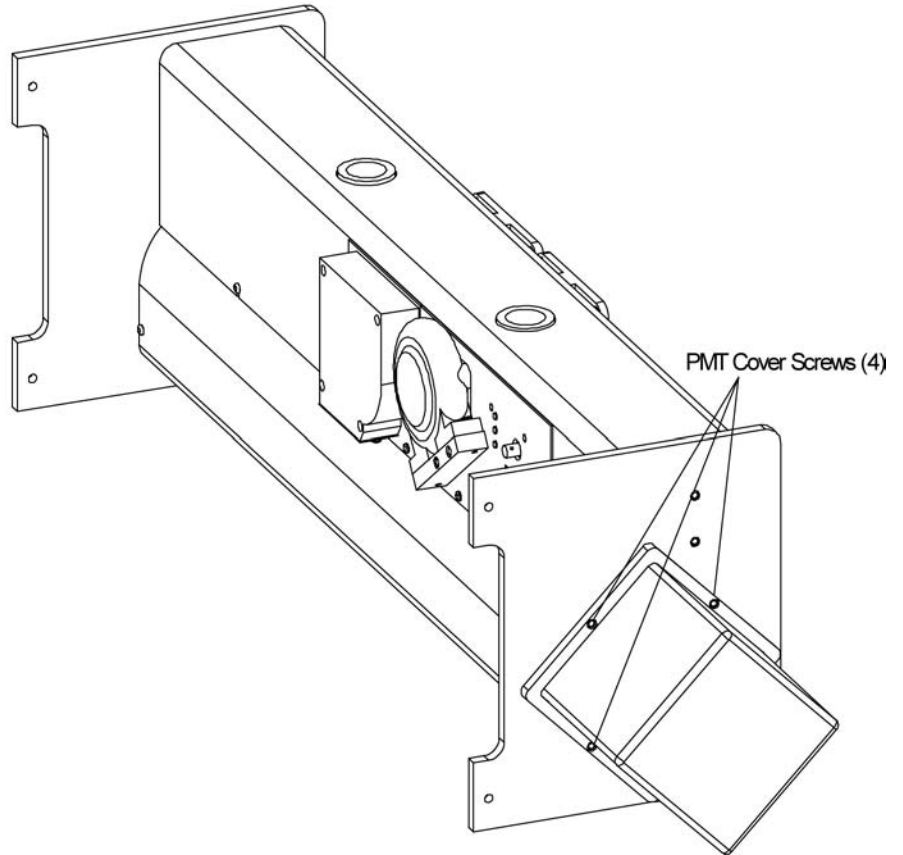

Figure 8-3
2. Unscrew the four screws attaching the PMT cover to the sensor and remove the cover (Figure 8-3).